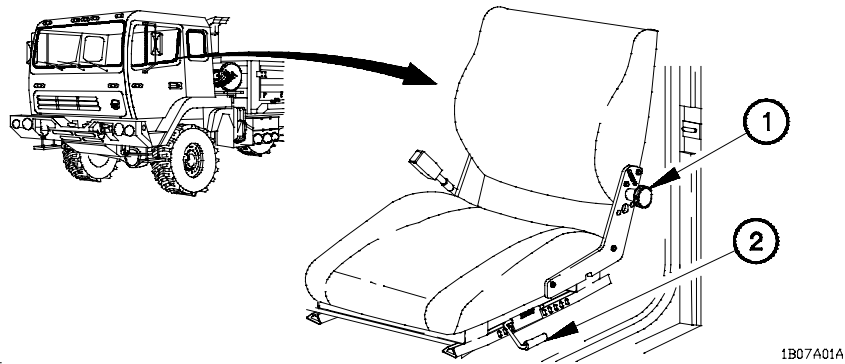

Figure 2-13. Driver's Seat Controls
a. **Driver's Seat Controls.** Figure 2-13 shows all controls on the driver's seat.